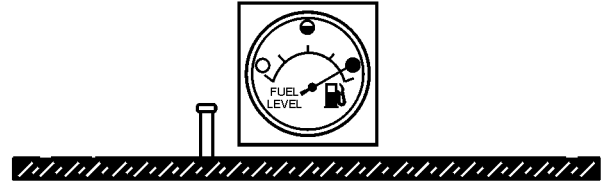

Figure 20. Full Fuel Tank
2. Remove fuel cap from filler neck and fill fuel tank (Figure 20).
3. **NEVER overfill fuel tank** — It is important to read the fuel gauge when filling trailer fuel tank. **DO NOT** wait for fuel to rise in filler neck (Figure 20).